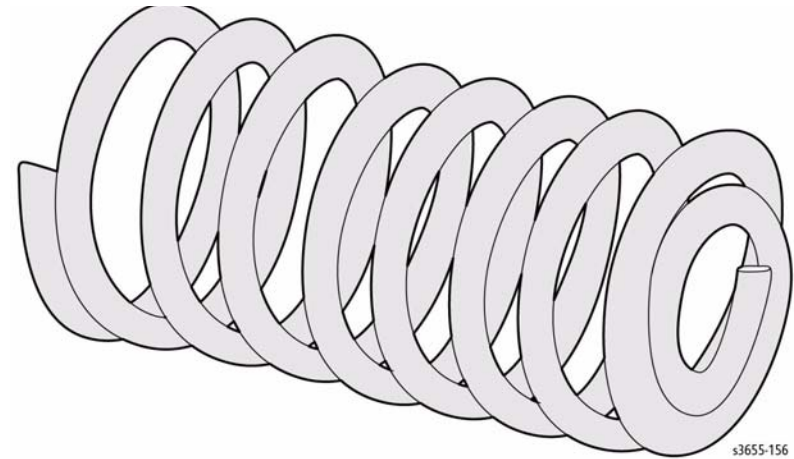

**Figure 4 Remove the Rubber Registration Roller**
6. Refer to Figure 4 to locate, lift, and rotate the registration shaft bearings to remove.